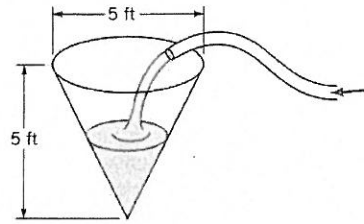

Figure P5.27
5.27 Estimate the time required to fill with water a cone-shaped container (see Fig. P5.27) 5 ft high and 5 ft across at the top if the filling rate is 20 gal/min .